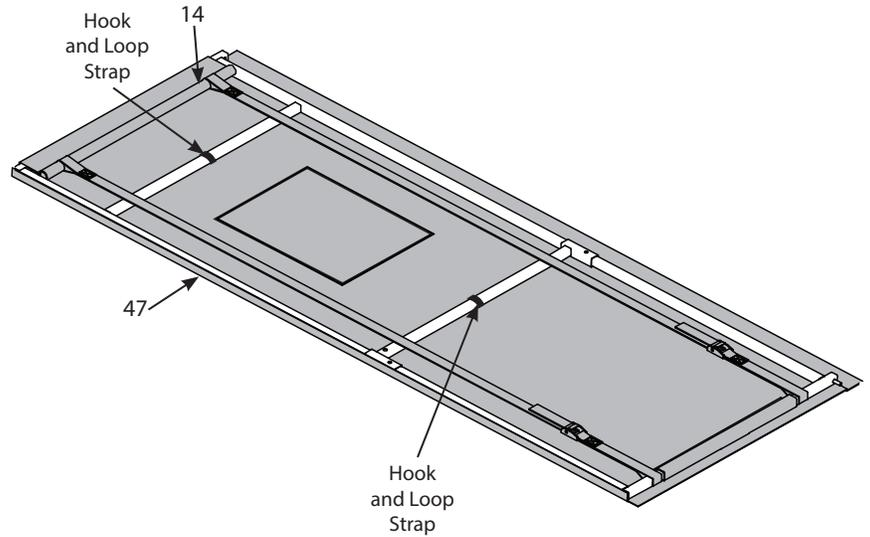

FIGURE 17
17. With the door panel (47) laid out flat, flip the assembled door frame over onto the panel. Then, flip pole (14), top edge of panel and the two long ends of cam straps over the frame. **SEE FIGURE 17.**
Feed the loop end of straps through the cam buckles and stand the door upright. Tension the door panel vertically by pulling down on the loop end of the strap with one hand and up on the loose end with the other. **DO NOT OVER TENSION THE PANEL. ONLY TENSION ENOUGH TO TAKE THE SLACK OUT OF THE PANEL VERTICALLY AT THIS TIME. SEE FIGURE 17.**
Wrap the edge of the door panel on the door handle side around the door frame and secure with hook and loop strips. The opposite edge will be attached with hook and loop strips to the left front wall panel (44) in a later step. **SEE FIGURE 17.**
Secure the door panel to the frame with the two hook and loop straps on the interior of the blind. **SEE FIGURE 17.**